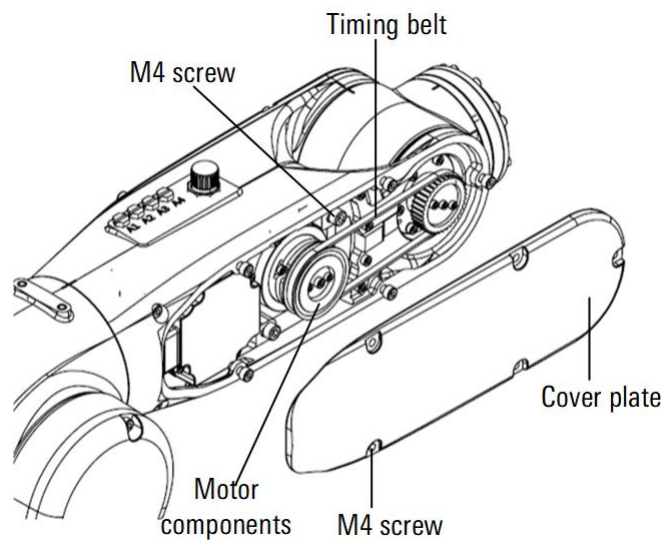

Figure 10-7 Diagram of J6 axis synchronous belt replacement
Step4.Remove the manipulator cover and screws, as shown in Figure 10-7.